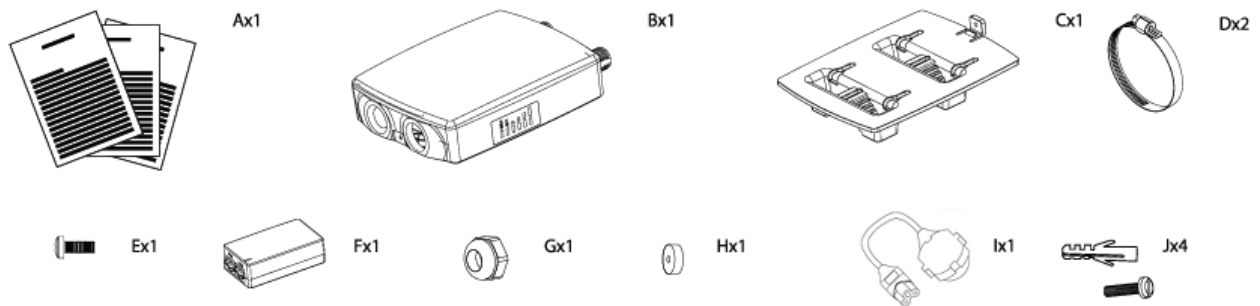

Figure 1 – APC 2M, APC 5M, APC 5M V2, APC 2M-8, APC 5M-12, APC 5M-12 V2 Package Contents
- Step 2.** Insert the clamps (item D in the *Figure 1 – APC 2M, APC 5M, APC 5M V2, APC 2M-8, APC 5M-12, APC 5M-12 V2 Package Contents*) on the mounting plate (item C in the *Figure 1 – APC 2M, APC 5M, APC 5M V2, APC 2M-8, APC 5M-12, APC 5M-12 V2 Package Contents*) as displayed below:
Step 5. Connect Ethernet cable into the APC then insert a rubber gasket (item H in the *Figure 1 – APC 2M, APC 5M, APC 5M V2, APC 2M-8, APC 5M-12, APC 5M-12 V2 Package Contents*) into CAT5 Ethernet connector gland and tighten with gland cap (item G in the *Figure 1 – APC 2M, APC 5M, APC 5M V2, APC 2M-8, APC 5M-12, APC 5M-12 V2 Package Contents*) as displayed below:
Step 6. After attaching the APC to the mounting plate, fasten the unit to the bottom near the CAT5 Ethernet plug using screw (item E in the *Figure 1 – APC 2M, APC 5M, APC 5M V2, APC 2M-8, APC 5M-12, APC 5M-12 V2 Package Contents*).
Step 2. Attach APC mounting plate (item C in the *Figure 1 – APC 2M, APC 5M, APC 5M V2, APC 2M-8, APC 5M-12, APC 5M-12 V2 Package Contents*) to the wall using screws (item J in the *Figure 1 – APC 2M, APC 5M, APC 5M V2, APC 2M-8, APC 5M-12, APC 5M-12 V2 Package Contents*) as displayed below:
- Step 3.** Connect Ethernet cable into the APC then insert a rubber gasket (item H in the *Figure 1 – APC 2M, APC 5M, APC 5M V2, APC 2M-8, APC 5M-12, APC 5M-12 V2 Package Contents*) into CAT5 Ethernet connector gland and tighten with gland cap (item G in the *Figure 1 – APC 2M, APC 5M, APC 5M V2, APC 2M-8, APC 5M-12, APC 5M-12 V2 Package Contents*) as displayed below:
- Step 5.** After attaching the APC to the mounting plate, fasten the unit to the bottom near the CAT5 Ethernet plug using screw (item E in the *Figure 1 – APC 2M, APC 5M, APC 5M V2, APC 2M-8, APC 5M-12, APC 5M-12 V2 Package Contents*).